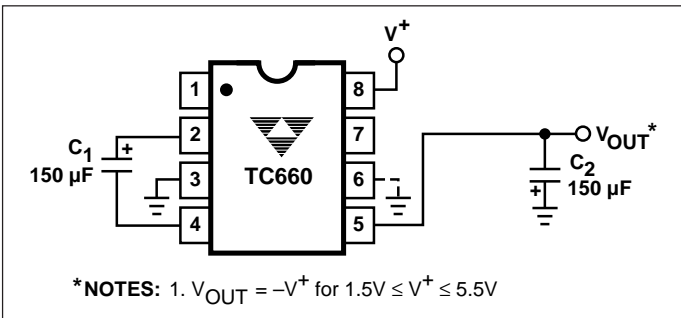
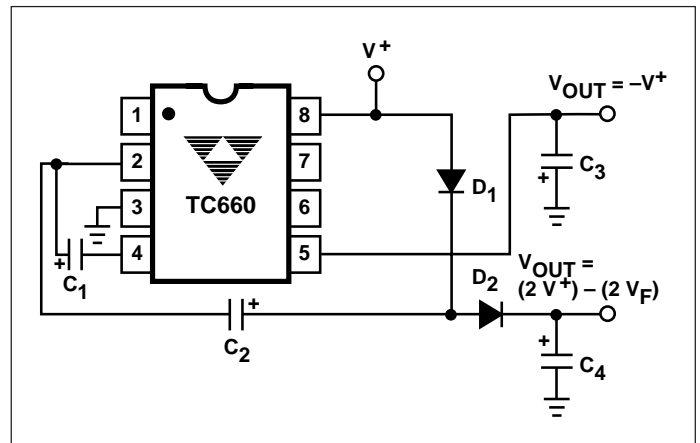

Figure 3. Simple Negative Converter
Figure 10. Combined Negative Converter and Positive Multiplier
Figure 3 shows typical connections to provide a negative supply where a positive supply is available. A similar scheme may be employed for supply voltages anywhere in the operating range of +1.5V to +5.5V, keeping in mind that pin 6 (LV) is tied to the supply negative (GND) only for supply voltages below 3.0V.
The output characteristics of the circuit in Figure 3 are those of a nearly ideal voltage source in series with 6.5Ω . Thus, for a load current of $-100mA$ and a supply voltage of $+5V$, the output voltage would be $-4.35V$.
Figure 10 combines the functions shown in Figures 3 and 8 to provide negative voltage conversion and positive voltage multiplication simultaneously. In this instance, capacitors C_1 and C_3 perform the pump and reservoir functions, respectively, for the generation of the negative voltage, while capacitors C_2 and C_4 are pump and reservoir, respectively, for the multiplied positive voltage. There is a penalty in this configuration in that the source impedances of the generated supplies will be somewhat higher due to the finite impedance of the common charge pump driver at pin 2 of the device.